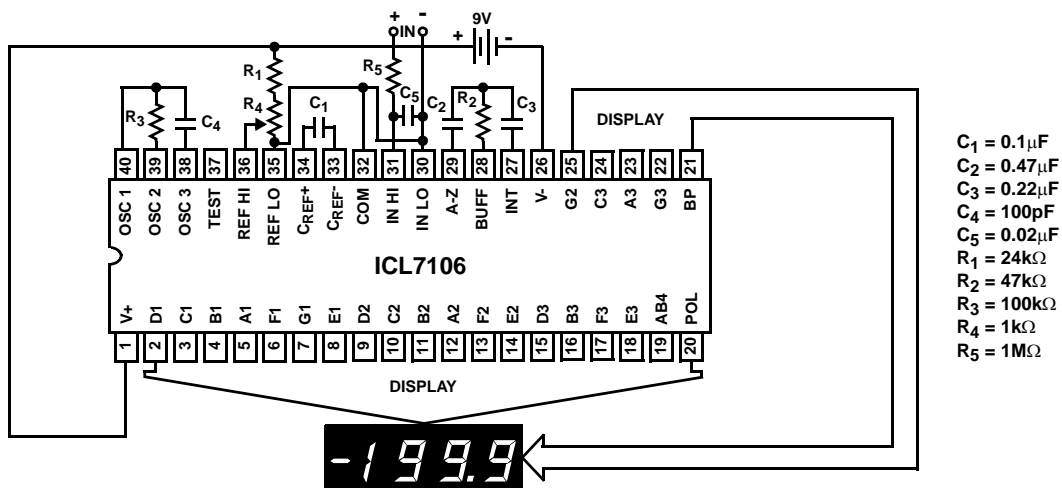
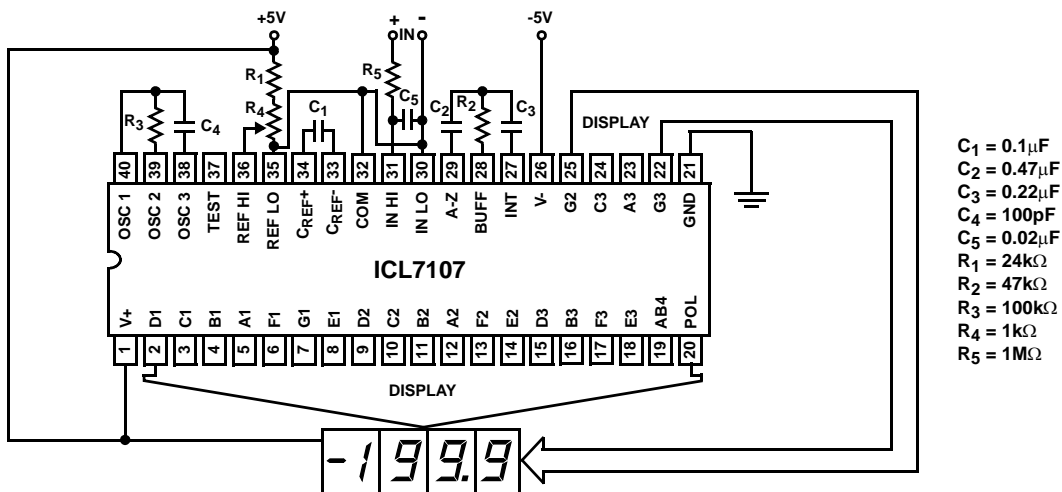

FIGURE 1. ICL7106 TEST CIRCUIT AND TYPICAL APPLICATION WITH LCD DISPLAY COMPONENTS SELECTED FOR 200mV FULL SCALE
FIGURE 2. ICL7107 TEST CIRCUIT AND TYPICAL APPLICATION WITH LED DISPLAY COMPONENTS SELECTED FOR 200mV FULL SCALE
- Unless otherwise noted, specifications apply to both the ICL7106 and ICL7107 at  $T_A = 25^\circ\text{C}$ ,  $f_{\text{CLOCK}} = 48\text{kHz}$ . ICL7106 is tested in the circuit of Figure 1. ICL7107 is tested in the circuit of Figure 2.